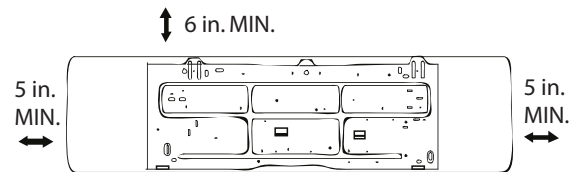

Fig. 5 — Required Clearances
- Proper clearance should be provided on the side and top as shown in Fig. 5.